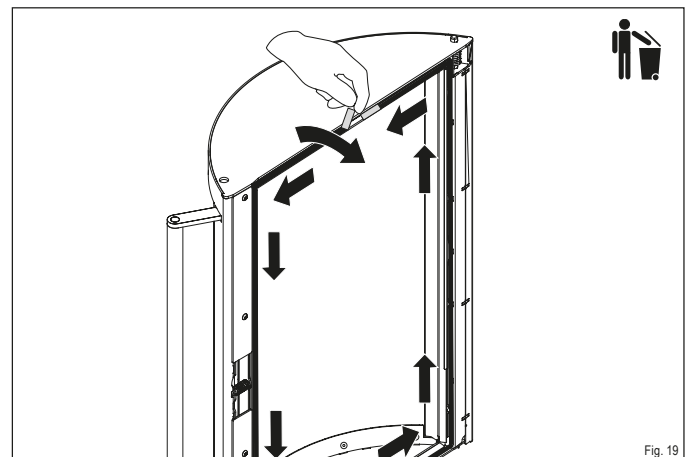

Fig. 19
- ▶ Pull the old seal out of the rail starting at one end and dispose of it in the waste (Fig. 19).